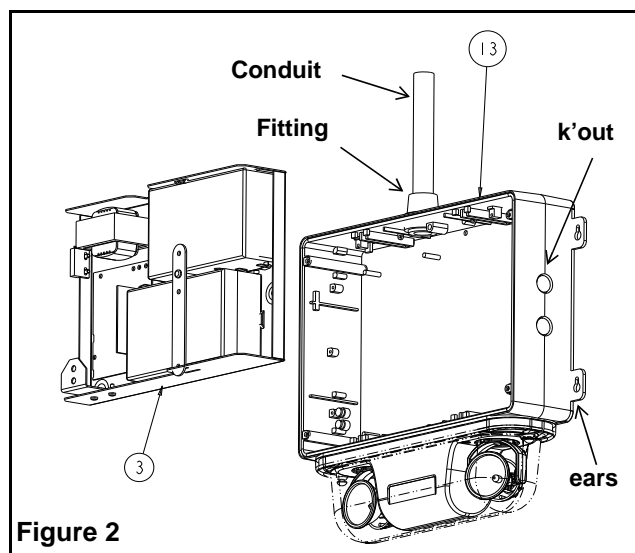

Figure 2
- c. Install the unit on the wall with 4 screws (not provided). Use the ears located on each side (see figure 2). Route unswitched AC circuit wires into the housing.